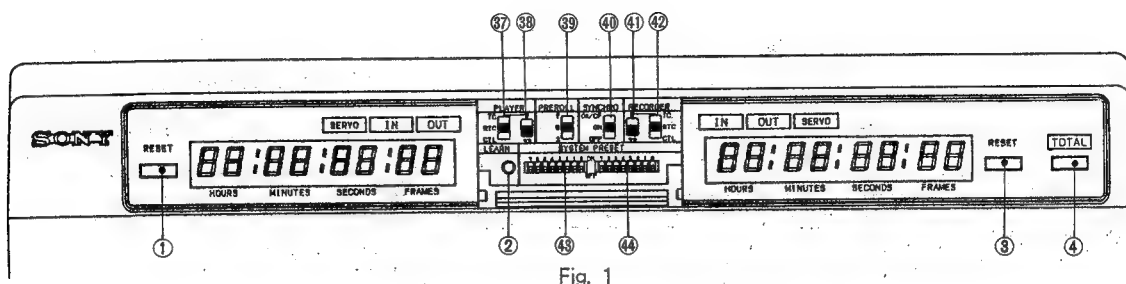
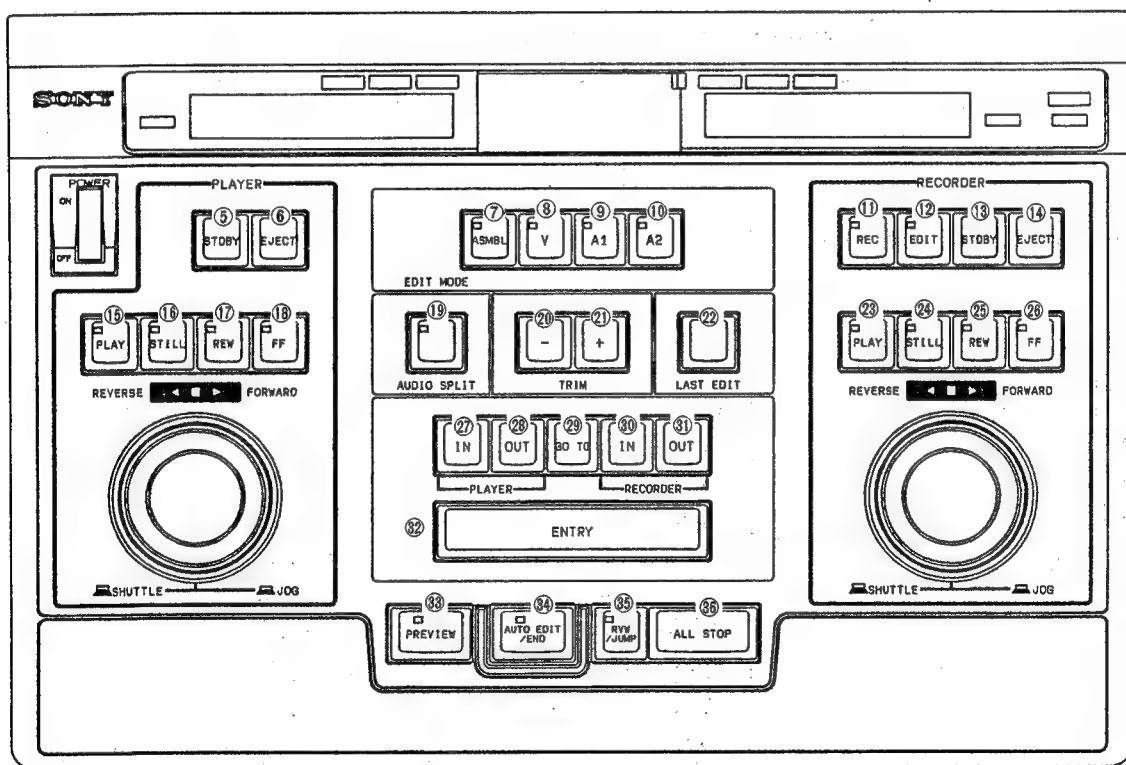

Fig. 1
Fig. 2
- 1) Turn power ON while pressing ② **LEARN** in Fig. 1 and ⑦ **ASMBL** in Fig. 2 at the same time.
- 2) Press ⑭ **EJECT**.
- 3) Again press ⑭ **EJECT**, and "11..." appears on 7-segment display on the left side.
- (1) Place all indoor switches ⑦ to ⑭ in Fig. 1 in upper position, and press ⑭ **EJECT**.
- (2) Place the above switches in lower position, and press ⑭ **EJECT** twice.
- (3) Place ⑦ ⑨ ⑭ and ⑮ switches in Fig. 1 in center position, and press ⑭ **EJECT** twice.
- 5) Press ⑭ **EJECT**.
- (1) Turn ON the POWER switch while pressing ② **LEARN** in Fig. 1 and ⑩ **A2** in Fig. 2 at the same time.
- (2) Press ⑭ **EJECT** in Fig. 2.
- (3) Remove the DIP switch from S202.
To confirm whether additional error codes are present in the same step, press ⑬ **STDBY** key in Fig. 2.
To proceed to the next step, press ⑭ **EJECT** key in Fig. 2.